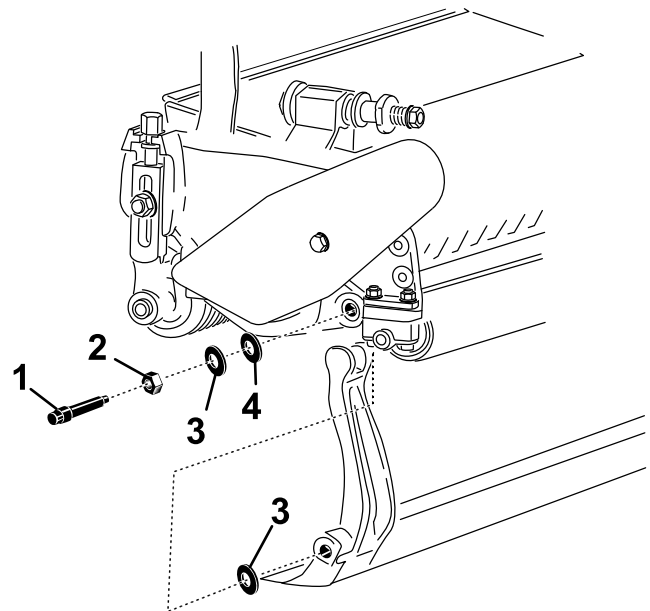

**Figure 20**
1. Turn the bedbar adjusting screw, counterclockwise, to back the bedknife away from the reel (Figure 20).
2. Back out the spring-tension nut until the washer is no longer tensioned against the bedbar (Figure 20).
- 1. Install the bedbar, positioning the mounting ears between the washers and the bedbar-adjusting screw (Figure 20).